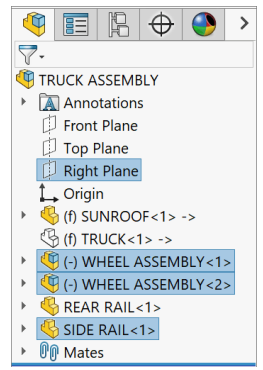

Fig. 30
Step 2. **Ctrl click Right Plane** both **Wheel Assemblies** and **Side Rail** in the Feature Manager to select all, **Fig. 30**.